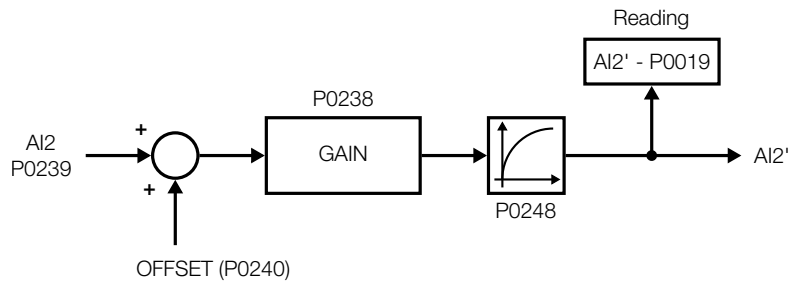

Figure 5.30 – Block diagram of analog input AI2
- See Figure 5.30 on page 5-46.